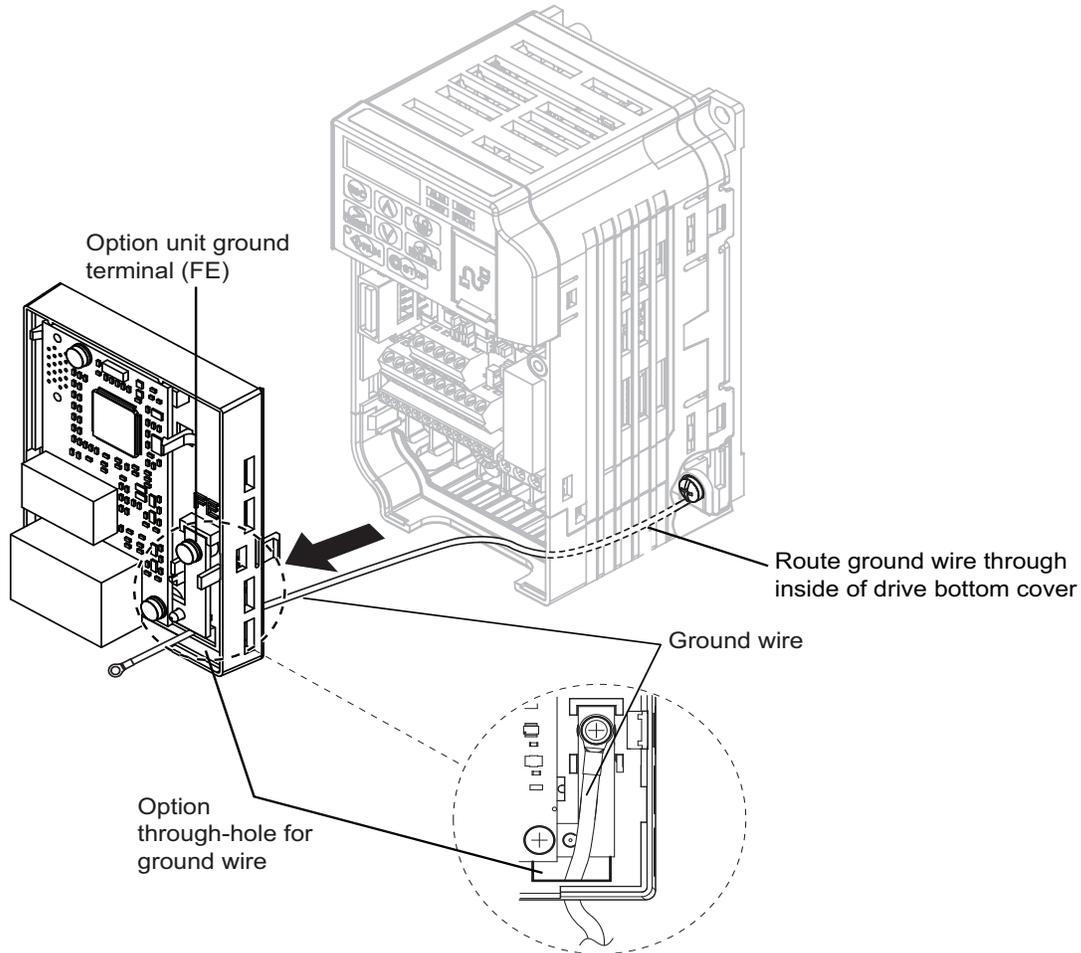

Figure 21 Ground Wire Routing
14. Refer to **Figure 21** for ground wire routing.